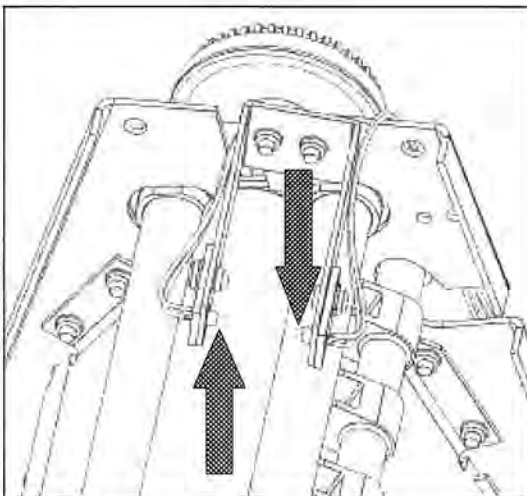

Figure 8
- B. Locate the optical sensors as shown in Figure 8. The sensors will be of a translucent plastic material.